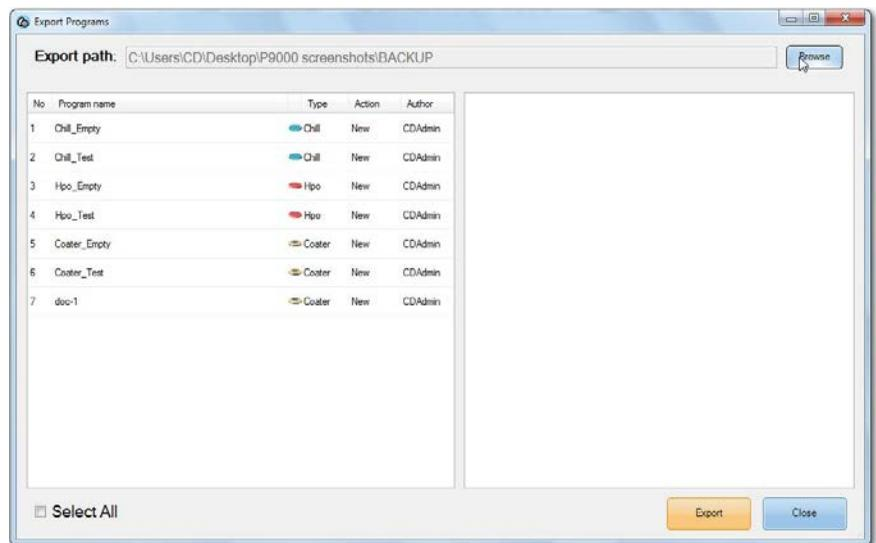

FIGURE 3-21: Exporting module programs
1. On the Programs page, click **Backup**. The Export Programs dialog box opens. See Figure 3-21.